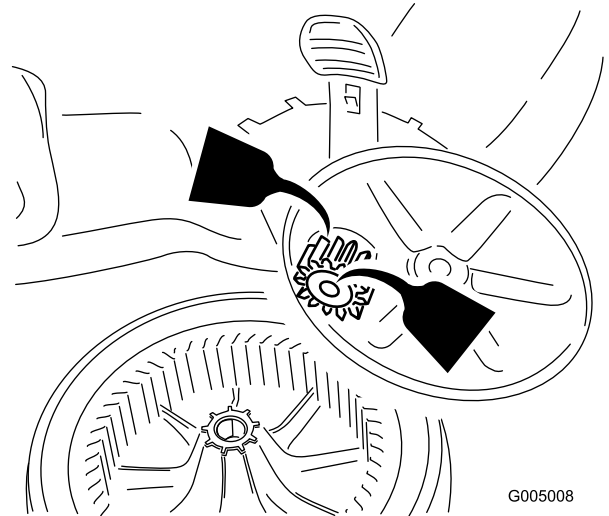

Figure 26
2. Apply a lubricating oil to the inner and outer sides of the gear as shown in Figure 26.